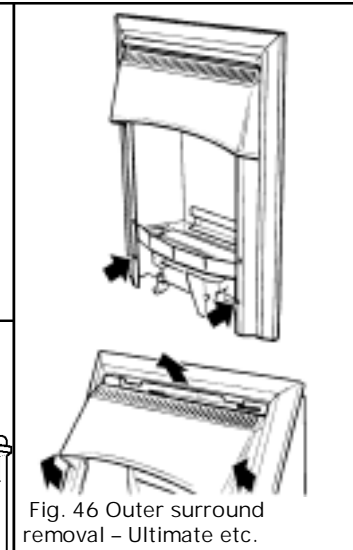

Fig. 46 Outer surround removal – Ultimate etc.
**13.3.3** Remove the two screws securing the bottom of the front surround to the sides of the convection box (See fig. 46).
**13.3.4** Raise the front surround to allow the retaining lugs at the top to clear the slots in the convection box hood (see figure 46). Carefully remove the surround. Place carefully aside.